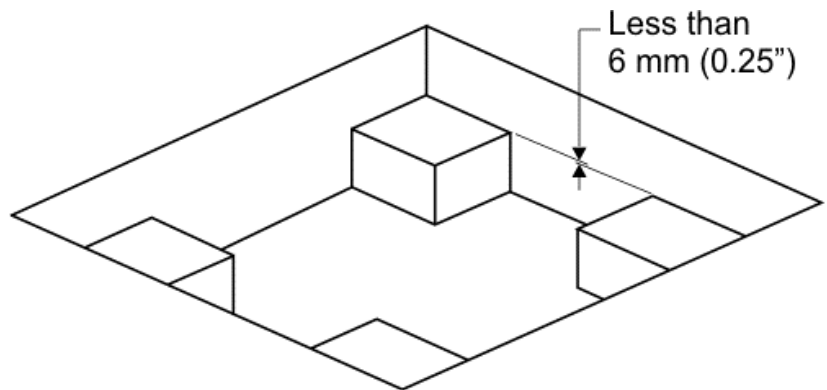

FIGURE 2
3. The difference in elevation between foundation piers should not exceed 0.25 inch (6 mm). See Figure 2. The leveling feature in Vibro/Dynamics Isolators will compensate for any remaining difference.